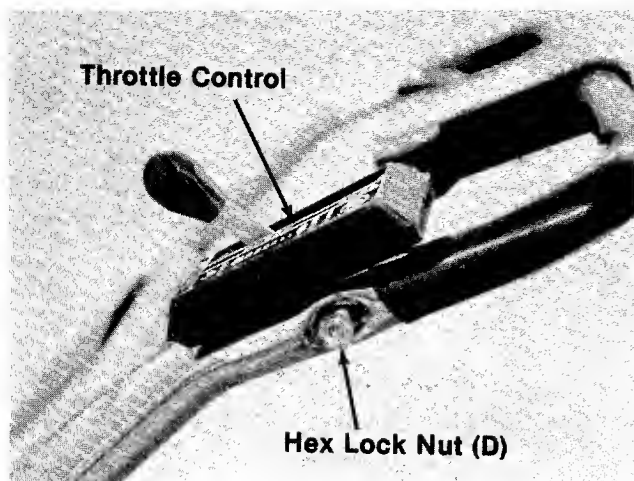

FIGURE 4.
5. Place the throttle control in position on the **left** hand side of upper handle. Secure with hex bolt (C) and lock nut (D). See figure 4.